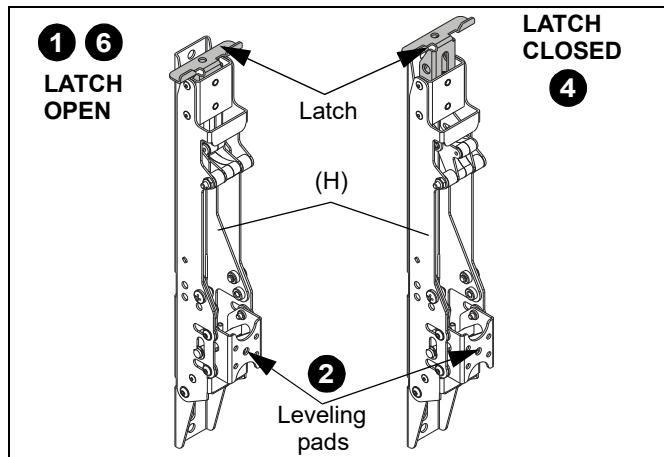

Figure 2
1. Ensure the latch on both interface brackets (H) is in the **OPEN** position. (See Figure 2)
2. Hang interface brackets (H) on the strut channel with the leveling pads located towards the wall. (See Figure 2)
4. Raise latch on interface brackets to **CLOSED** position. (See Figure 2)
6. Lower interface bracket latches to **OPEN** position and remove interface brackets from strut channel. (See Figure 2)